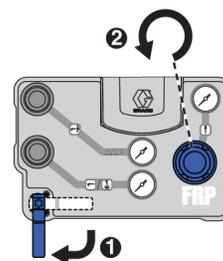

FIG. 10
1. Close the main air supply ball valve. See FIG. 10.
2. Turn the main air supply pressure regulator fully counter-clockwise. See FIG. 10.